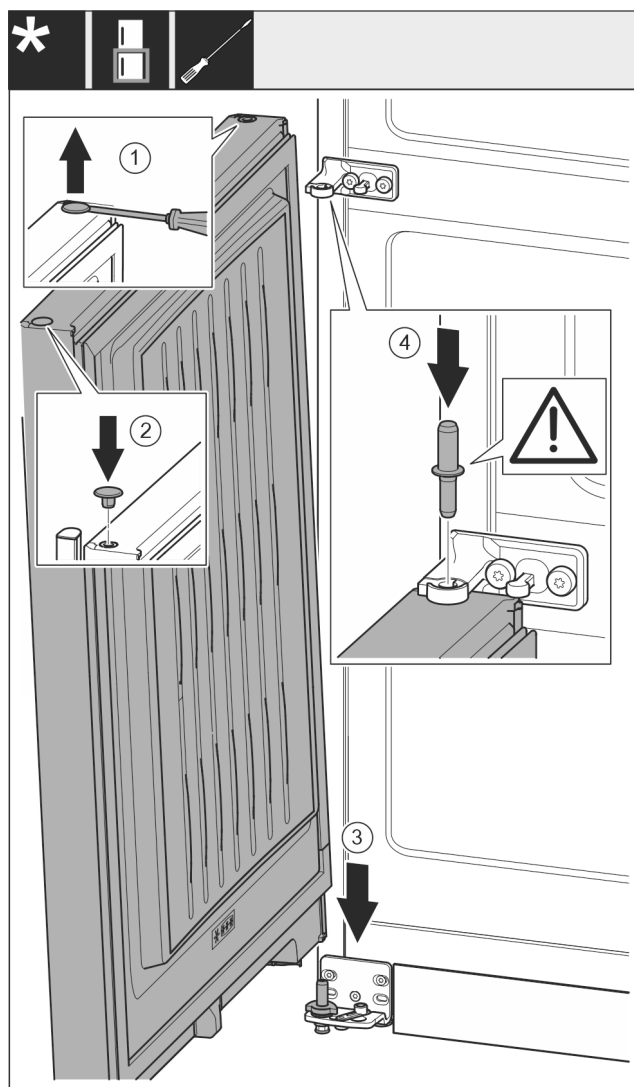

Fig. 24
- Carefully lift the plug Fig. 24 (1) with a slotted screwdriver and pull it out.
- Reinsert the plug Fig. 24 (2) on the other side of the door.
- Fit the door Fig. 24 (3) onto the lower bearing pin from the top.
- Insert the center bearing bolt Fig. 24 (4) through the center swap bearing block into the bottom door. In the process, make sure that the latching cam shows towards the rear.